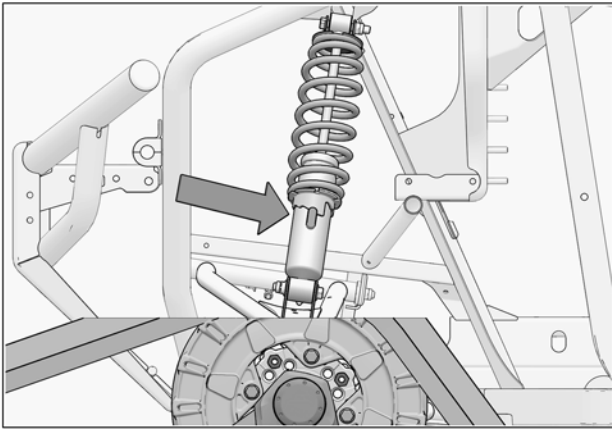

Fig. 22
1. Verify the suspension settings. If the shock absorbers are adjustable, adjust them to the stiffest setting to allow for maximum clearance between the System and the vehicle's fenders. See Fig. 22